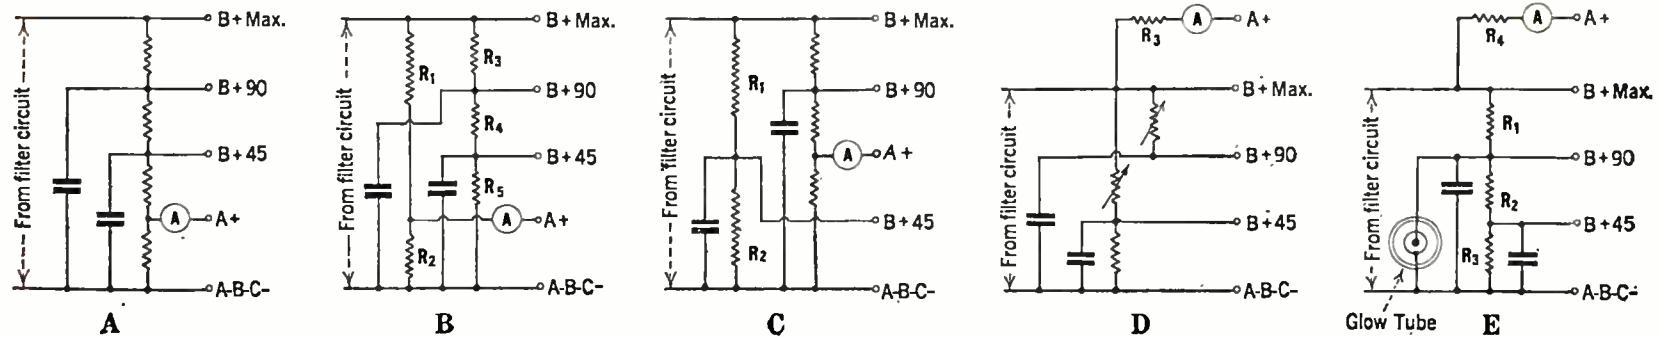
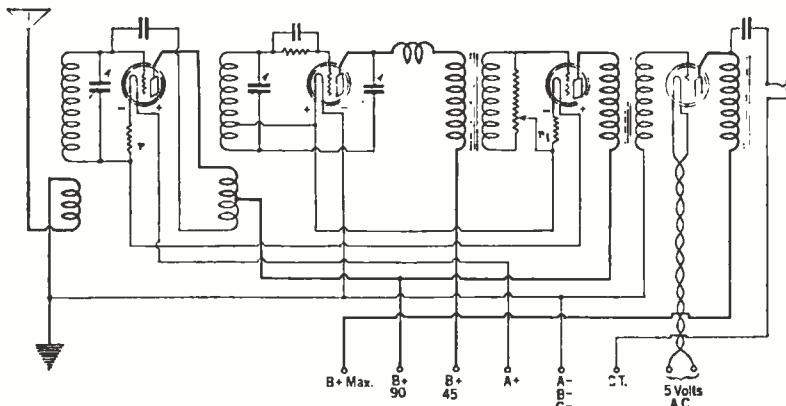
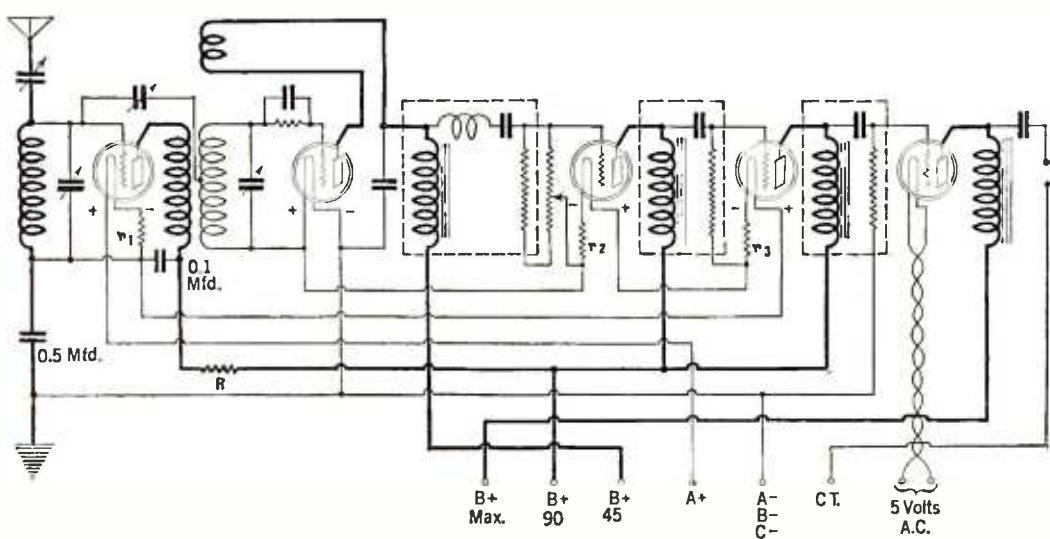

FIG. 1
FIG. 3
FIG. 5
using a five-tube receiver consisting of a stage of r.f. amplification, regenerative detector, and a three-stage double-impedance amplifier. A regenerative receiver using this type of amplification is frequently difficult to get working properly with a power-supply unit because of a marked tendency to "motor-boating," and it was felt that, if this receiver could be made to function satisfactorily with an A,B,C power unit, any other receiver would surely work satisfactorily. It was found that the receiver "motor boated" badly using the output circuit shown in Fig. 1, A, although when a two-stage transformer-coupled amplifier was substituted for the double-impedance affair, results were excellent. To prevent "motor boating" with the impedance amplifier, the output potentiometer circuits shown at B, C, D, or E, Fig. 1, had to be used.
brought down to two a.c. filament terminals, and it is absolutely necessary that the output circuit shown in the plate circuit of the 171 be used and that one side of the loud speaker jack connect to the center tap, CT, as indicated. The negative A should be grounded. No trouble should be experienced with this receiver due to "motor boating" and, for this reason, any output arrangement indicated in Fig. 1 may be used. However, in the event that the "Lab" receiver
In Fig. 3 we have a diagram of the new "Universal" receiver, described in RADIO BROADCAST for December, 1926, wired for a.c. operation. The order of filaments is the same as in the case of the "Lab" receiver, and the two resistances, r and r_1 , should each also have a value of 18 ohms. This receiver will operate satisfactorily using any of the output arrangements indicated in Fig. 1.
has been constructed using a different type of audio amplifier, such as an impedance- or resistance-coupled circuit, it will very likely be necessary to use a special output arrangement in the power unit to prevent "motor boating." Separating the detector plate voltage supply from the rest of the A and B circuits, as shown in B, Fig. 1, will generally eliminate the trouble, but if "motor boating" is very persistent it will be necessary to use the glow tube arrangement shown at "E" in Fig. 1.
a.c. neutrodyne receiver. The resistances r_1 , r_2 , and r_3 should each have a value of 18 ohms, which will give the two r. f. tubes and the first a. f. tube a grid bias of 4.5 volts. The receiver will function satisfactorily with any of the output arrangements indicated in Fig. 1.
Fig. 5 is the circuit diagram of the impedance-coupled Browning-Drake receiver which was described in the September, 1926, RADIO BROADCAST, now connected so as to be satisfactory for use in conjunction with A, B, C power units. The order of the filaments from the A plus terminal is r.f. tube first, second a.f. tube secondly, first a.f. tube third, and detector finally. The resistance r_1 should have a value of 12 ohms; r_2 should have a value of 4 ohms, and r_3 , a value of 12 ohms. The negative A should be grounded and should also connect through a 0.5-mfd. fixed bypass condenser to the lower side of the coil in the antenna circuit. It is unlikely that this receiver will give satisfactory results with the output circuit arrangements of the power unit shown at "A," "B," or "C," Fig. 1. For this set it will be preferable to use the circuit arrangement indicated at "D" or "E."